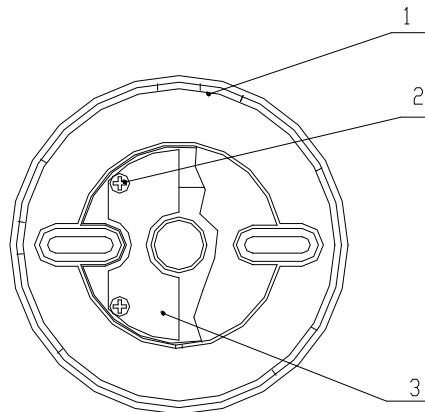

Fig. A-1
- 1) View from the bottom is shown in Fig. A-1.